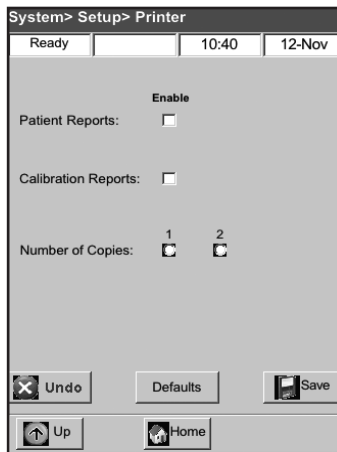

Figure H-5: System > Setup > Printer screen
4. From the Printer screen (Figure H-5):